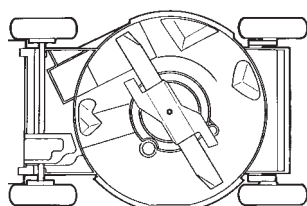

Figure 17
5. Tip the lawn mower onto its **left** side (Fig. 17).